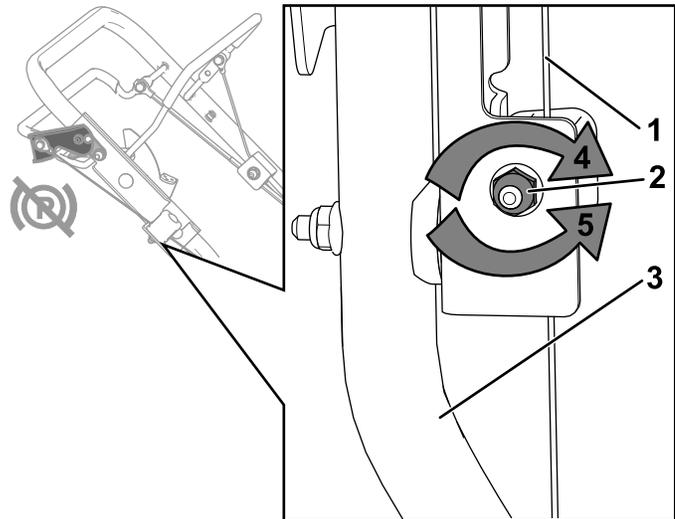

Figure 38
2. Turn the adjustment nut counterclockwise to loosen the cable adjustment (Figure 38).
3. Adjust the tension on the cable (Figure 38) by pulling or pushing the cable jacket and holding that position.